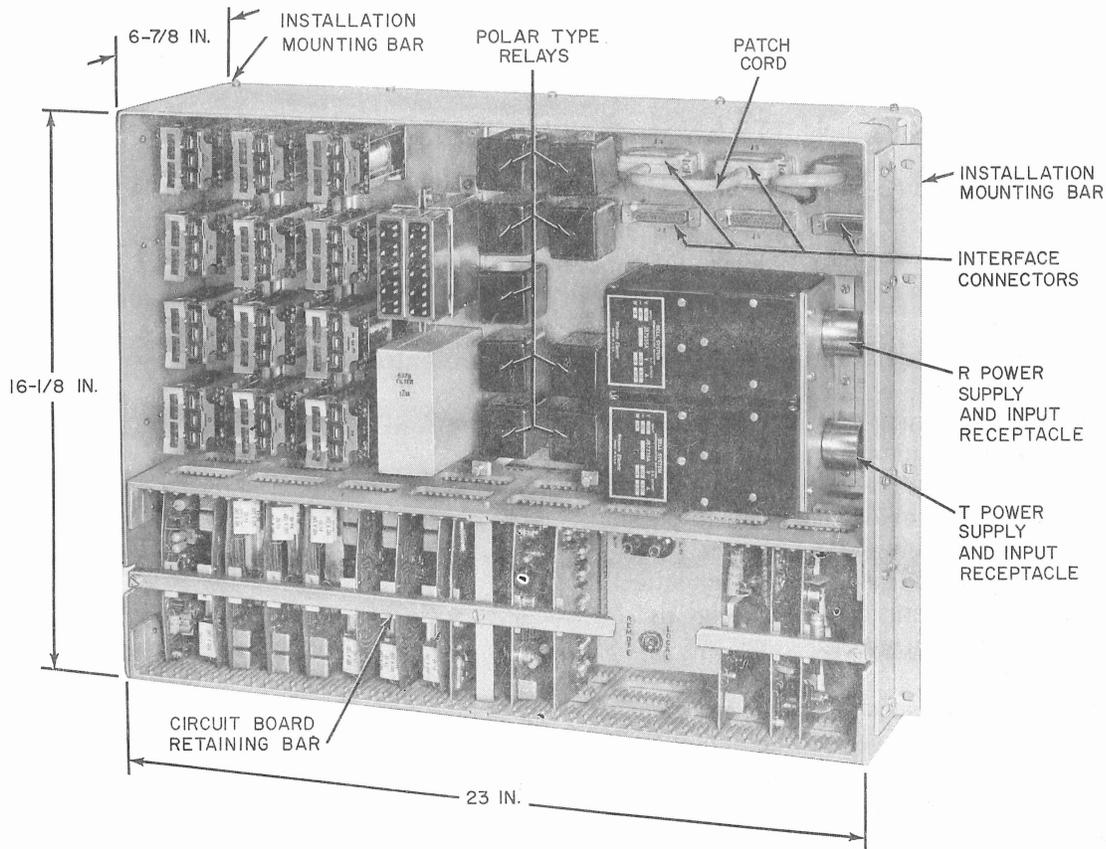

Fig. 1—Data Set 404A, Front View
2.01 Data Set 404A consists of 14 printed circuit boards, 21 relays, 10 dry reed relays, and a 637B filter network. Refer to Fig. 1 for the locations of these major components.